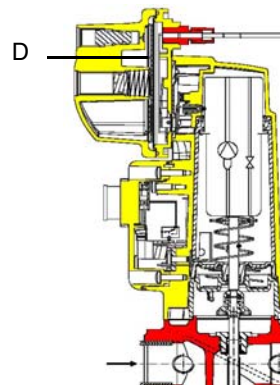

Fig. 9
**⚠ Caution:** the SKP2 diaphragm **D** must be vertical (see Fig. 9).